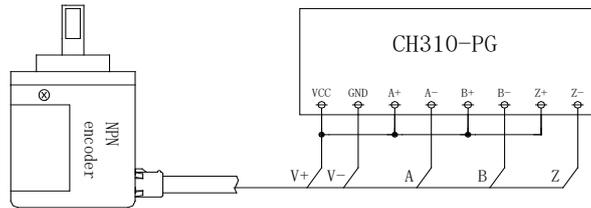

Figure 9-4 Wiring of NPN-type OC Encoder
- 2、 When an NPN-type OC encoder is used, the encoder signal is connected to the push-button terminals (A-, B-, and Z-), as shown in Figure 9-4.